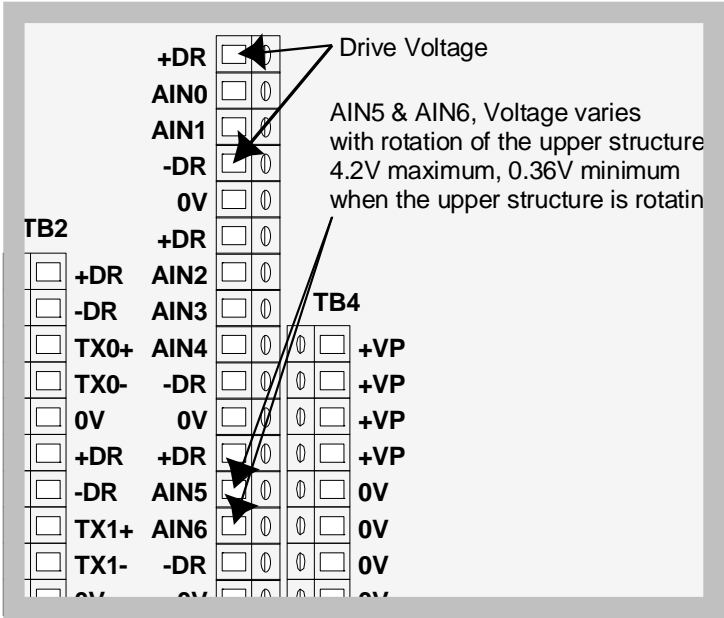

FIGURE 4.25 SWING POT CONNECTIONS
1. Access the Termination Board (see Figure 4.25). Check the Analog Drive Voltage. Refer to Measuring Analog Sensor Drive Voltage, page 36.